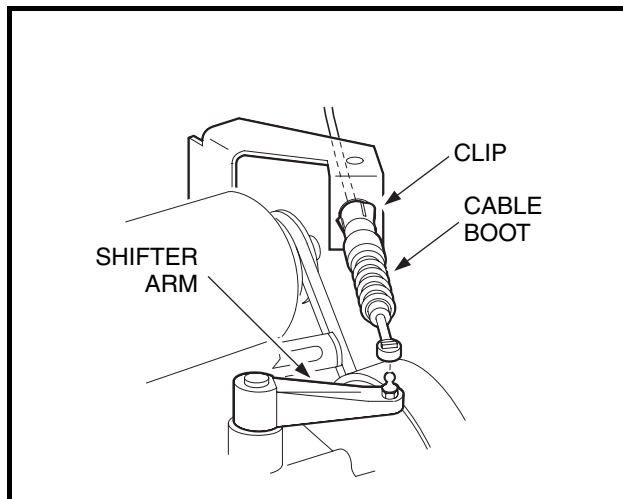

Figure 16-15 Shifter Cable
- 4.7. Use a screwdriver or flat blade to snap the shifter cable rod end from the shifter arm on the unitized transaxle. Compress the retaining clips on the cable boot and push the cable through the shifter bracket (**Figure 16-15, Page 16-9**).